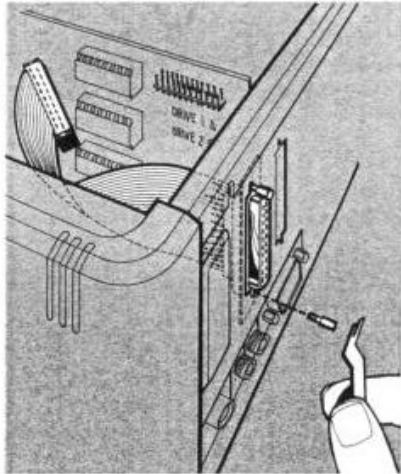

Figure 2-7. Tightening Interface Connector Screw Locks
9. Insert the other screw lock into the "D"-shaped connector's remaining mounting hole from the back of the computer as illustrated in Figure 2-7. Tighten both screw locks using the small hex wrench.